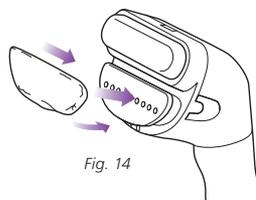

Fig. 14
- 11 To re-attach the steam bonnet, loop the steam bonnet on the sides of the steam nozzle. (Fig. 14)